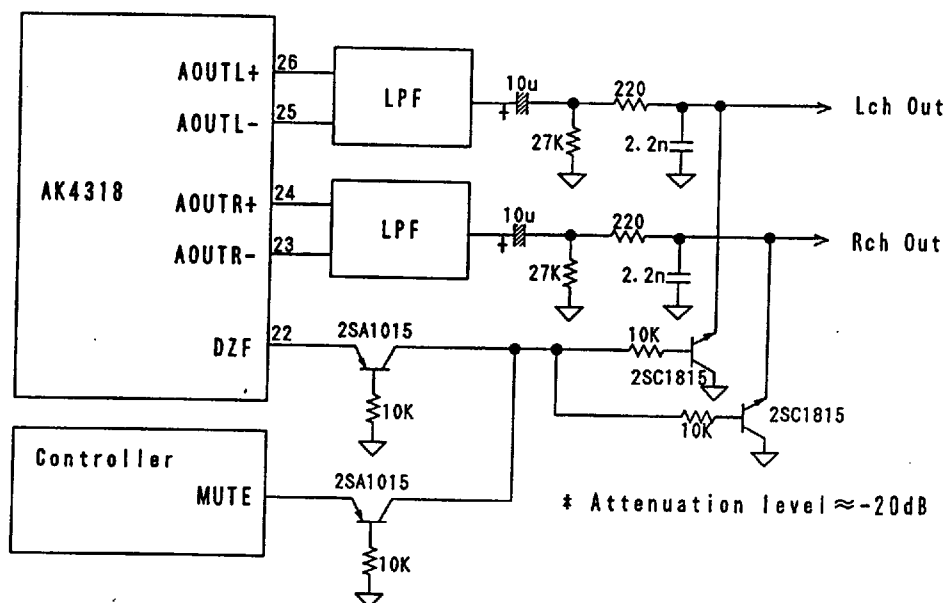

Figure 12. External mute circuit example
- ① The output signal is attenuated by $-\infty$ during 1024 LRCK cycles(1024/fs).
- ② Analog output corresponding to digital input have the group delay(GD).
- ③ If the soft mute is cancelled within 1024 LRCK cycles, the attenuation is discontinued and returned to 0dB.
- ④ As analog outputs aren't muted at ZMUTE "L", the noise level on analog outputs is -97dB.
- ⑤ When the input data at both channels are continuously zeros for 8192 LRCK cycles, DZF goes to "H". DZF immediately goes "L" if input data are not zero after going DZF "H".
- ⑥ As analog outputs are muted at ZMUTE "H", the noise level on analog outputs is about -110dB.
- ⑦ Click noise about -50dB occurs at the edges("↑↓") of DZF signal. Please mute the analog output externally if the click noise influences system application(Figure 12).
- ① Analog output corresponding to digital input have the group delay(GD).
- ② Analog outputs are floating(Hi-Z) at the power-down mode. The output noise level is about -110dB.
- ③ Click noise about -50dB occurs at the edges("↑↓") of \overline{PD} signal.
- ④ When the external clocks(XTI, BICK, LRCK) are stopped, the AK4318 should be in the power-down mode.
- ⑤ Please mute the analog output externally if the click noise(③) influences system application. The timing example is shown in this figure. Please refer to Figure 12.
Some click noise may occur at the edges ("↑ ↓") of $\overline{\text{PD}}$ signal and the zero detection with $\text{ZMUTE} = \text{"H"}$. The click noise which occurs at the edges ("↑ ↓") of $\overline{\text{PD}}$ signal can be avoided by controlling the external mute circuit using the signal like ⑤ in Figure 11. The click noise at the zero detection can be also avoided by muting the analog outputs using DZF signal. The external mute circuit example is shown in Figure 12.